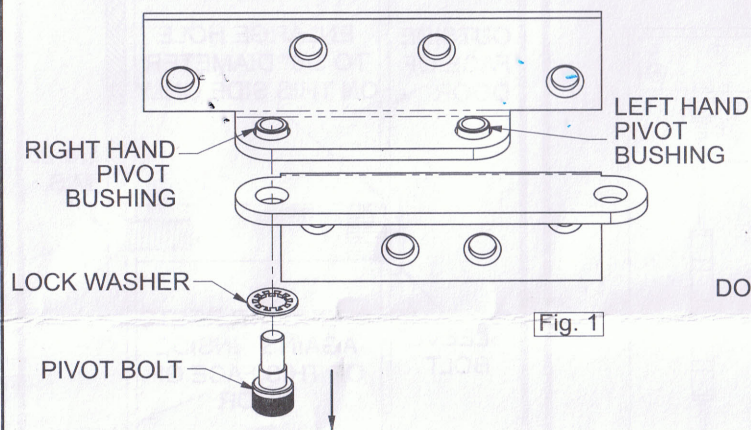

Fig. 1
- REMOVE THE PIVOT BOLT AND LOCK WASHER USING ALLEN KEY #5/16 FOR B1921 AND #3/8 FOR 1923 (Fig.1)